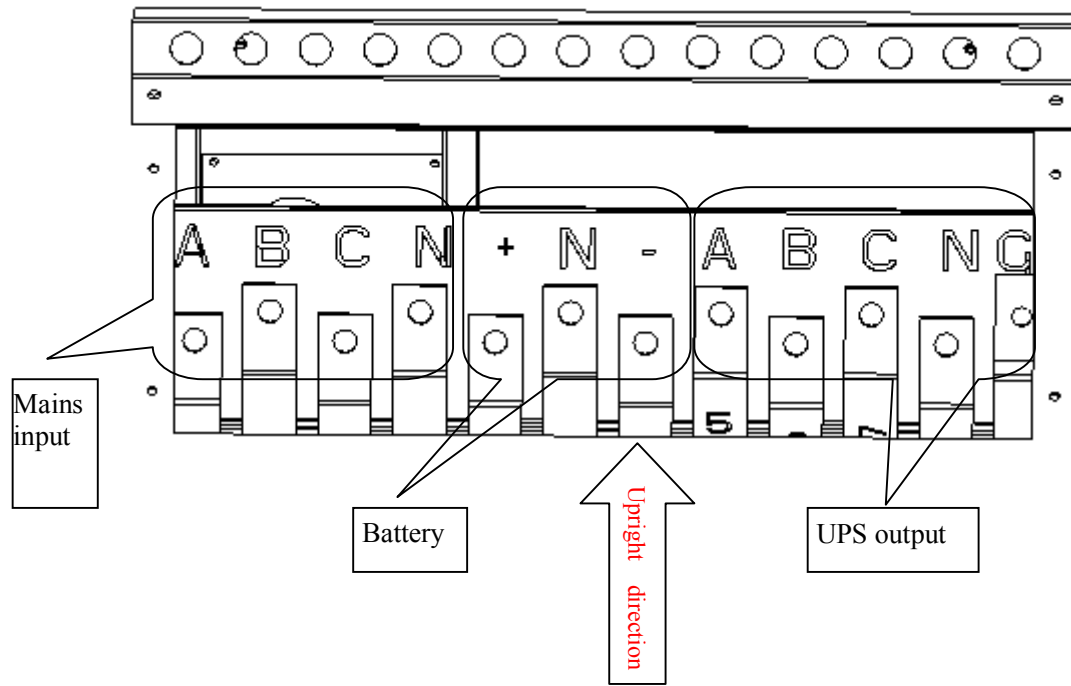

Fig.6.5
3. Connect the input and output wires of the UPS and the battery cables to the corresponding copper bars according to the marks (the copper bar mark is shown as Fig. 6.5) .